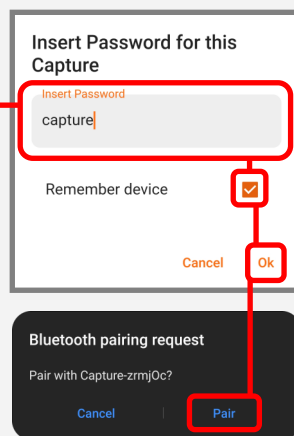

Fig 2
Select the radar starting time using the **right** button to increase by 30 minutes at a time (from 00:00 to 23:59), and the **left** button to decrease it. *Fig. 2*
- 2) Enter the default password "capture" and press ok. (For security reasons, we recommend that you change it later). Your smartphone will ask you to pair your Bluetooth device. Agree. Fig 2